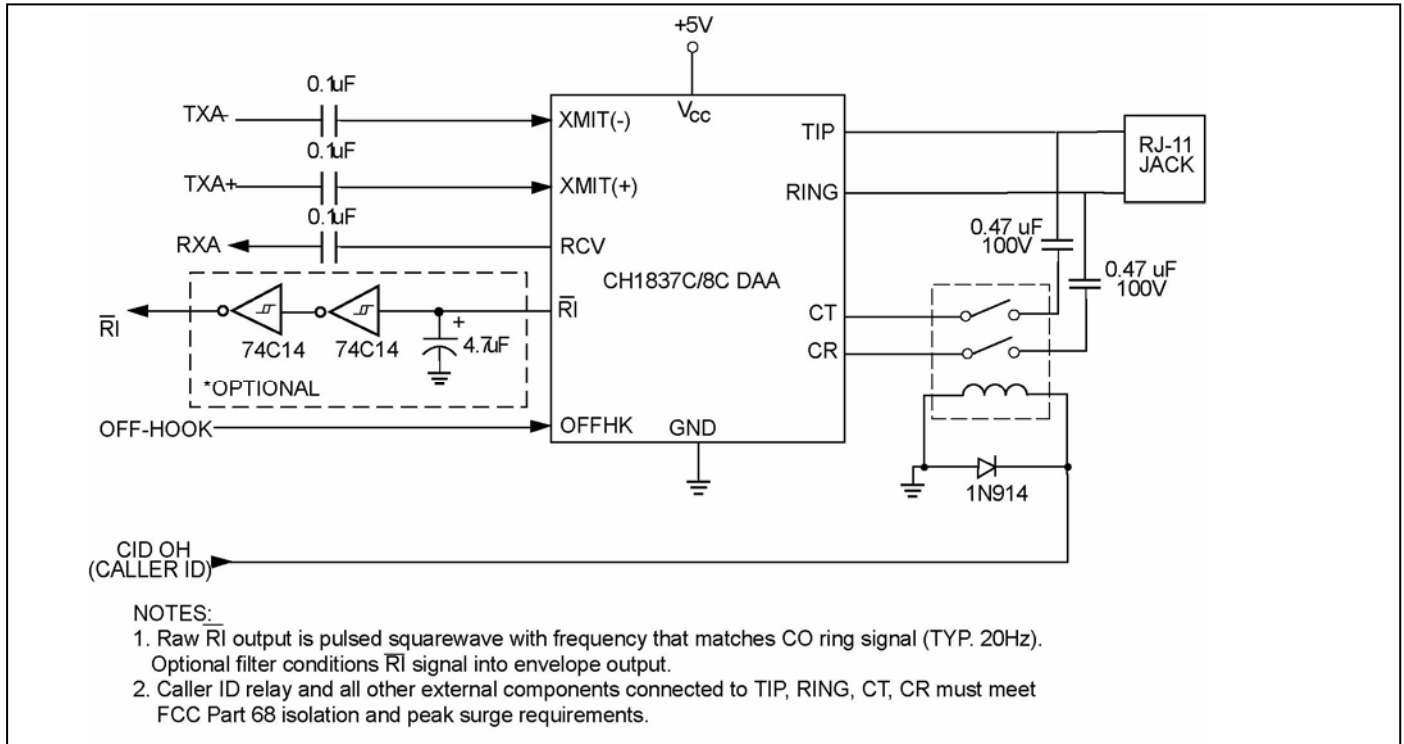

Figure 2. Typical Application.
Ring Detection. To announce an incoming call, the telephone company's central office (CO) applies an AC ringing signal to the PSTN line. The DAA is designed to detect this signal. The CH1837/8 sets the RI pin Low during the second ring period and restores it to High for the period between subsequent rings. While the AC ring signal is present on tip and ring, the RI output is pulsed at the same frequency as the incoming AC ringing signal, thereby creating a square wave output, typically at 20 Hz. Figure 2 shows additional filtering which may be employed to provide an envelope indication of the ring signal's presence. The ring detection circuit in the CH1837/8 family is designed to deter false indications caused by pulse dialing or noise on the PSTN line.
For single-ended operation, the outgoing analog signal is applied to the XMIT(-) pin with respect to GND. This signal must be AC coupled using a 0.1uF capacitor as shown in Figure 2. In single ended operation, the XMIT(+) pin must be connected to GND through a 0.1uF capacitor.
For differential operation, the outgoing analog signal is applied across pins XMIT(+) and XMIT(-). This signal must be AC coupled through a 0.1uF capacitor present on both the XMIT(-) and XMIT(+) pins as shown in Figure 2.
The incoming analog signal appears across TIP and RING. The CH1837/8 derives the incoming signal and presents it at RCV with respect to GND. The user must AC couple RCV through a 0.1uF capacitor as indicated in Figure 2.
CH1837C/CH1838C. The CH1837C and the CH1838C contain two additional pins. These pins are CR and CT. By connecting CR and CT through separate capacitors and switches/relays to TIP and RING (respectively), the Caller ID signal can be presented at RCV (See Figure 2).